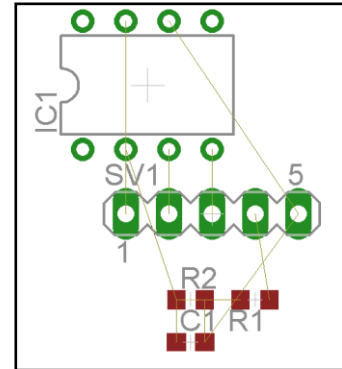

Figure 4: Component positioning.
6. With your layout completed (Figure 4), it is time to add the traces. Select the 'Route' tool – .